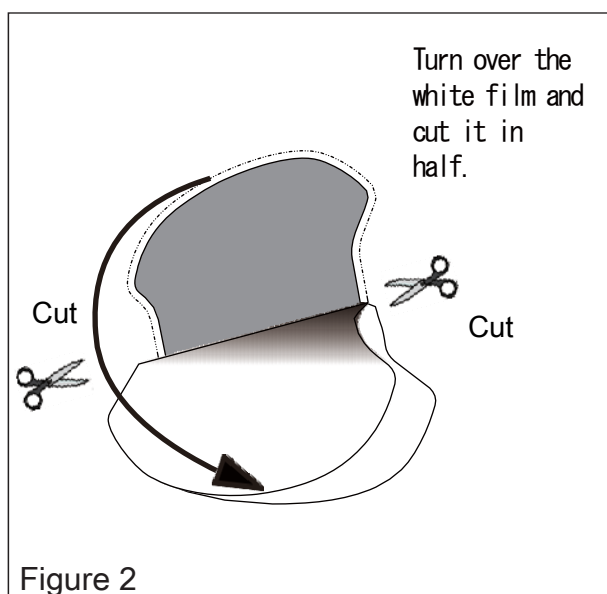

Figure 2
i) Turn over the white film half way. (Figure 2)
ii) Cut the white film with scissors. (Figure 2)